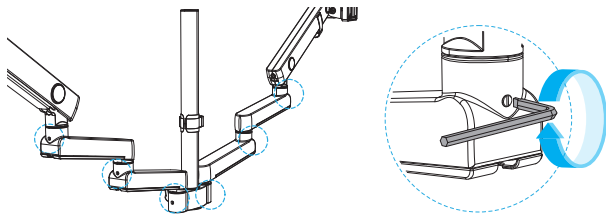

Figure 11
2. Use the **Flat Head** side of the **3mm Hex Key with Flat Screwdriver** to tighten the **Swivel Screw(s)**. (Optional) Slightly **Loosen** the **Swivel Screw(s)** to adjust the **Swivel Tension**. (Figure 11)